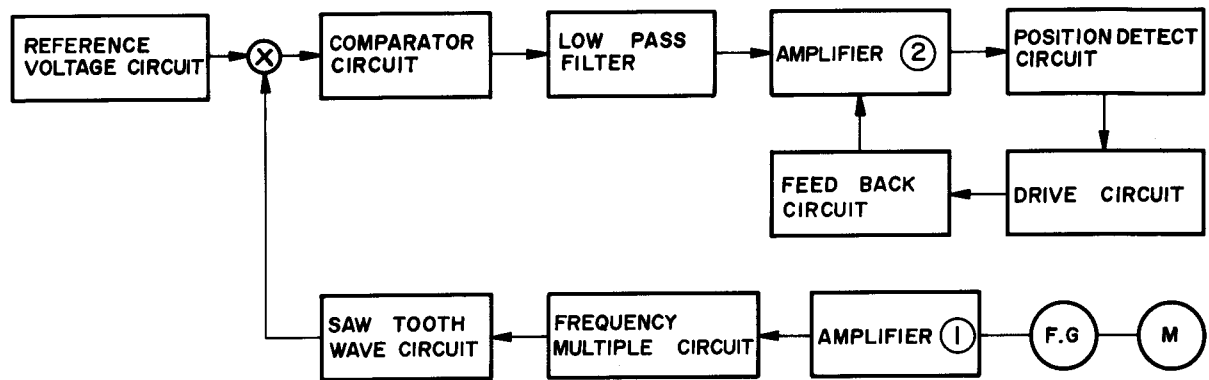

Figure 50-1
6.7 D.D. MOTOR CONTROL CIRCUIT (Refer to Figures 50-1, 50-2 and 51)